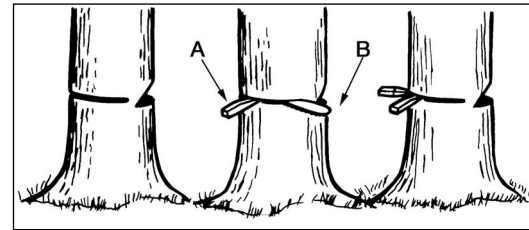

Fig. 11C
1. Use wooden or plastic wedges (A) to prevent binding the bar or chain (B) in the cut. Wedges also control felling (Fig. 11C).